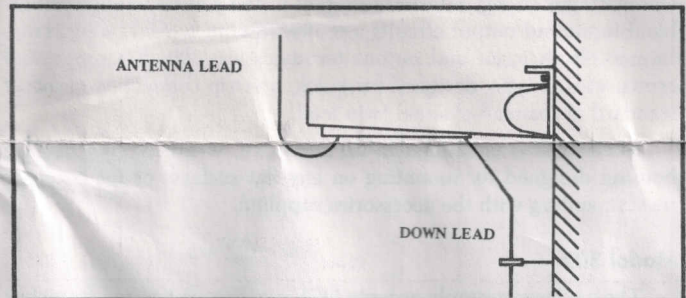

FIGURE 4 MODEL 4283 MOUNTED ON A WALL
1. Position the Model 283 against any vertical flat surface using the holes in the rear bracket, or on a horizontal flat surface, such as under eaves, using the holes in the top bracket. See Figures 4 and 5.